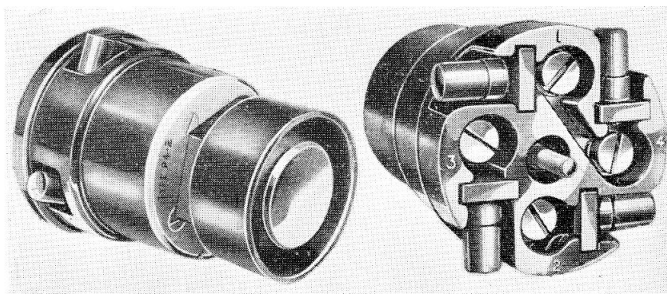

Fig. 3. Switch, Type P4/2
9. This is a single-pole, 15-amp. change-over push-switch, and is illustrated in fig. 3 and 4. It is completely weatherproof, with a rubber cap over the push-button and rubber covers over the terminals, and the push-button is spring-loaded to return to the normal position after operation.